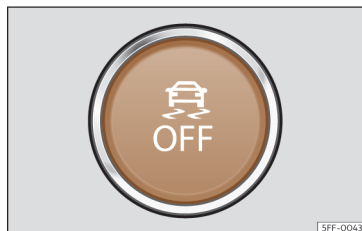

Fig. 179 In the lower part of the centre console: button to switch the ESC off/on
- The TCS can be switched on and off by briefly pressing the  button on the centre console >>> Fig. 179 .
- In “Sport” mode, the ESC can be switched off and on by briefly pressing the  button on the centre console >>> Fig. 179 .
- The ESC can be switched on and off by briefly pressing the  button on the centre console >>> Fig. 179 .